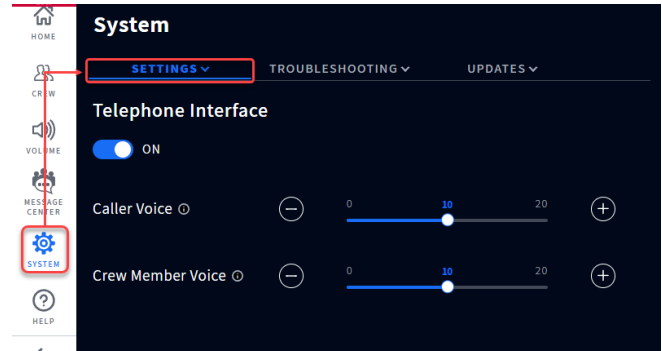

Fig. 12.4
2. Log in to the NEXEO base station and go to **SYS-TEM>SETTINGS**. Select Telephone Interface from the drop-down list, see Fig. 12.4. Toggle the OFF switch ON. The recommended default values are set to 10. If necessary, the volume levels can be adjusted using the sliders.